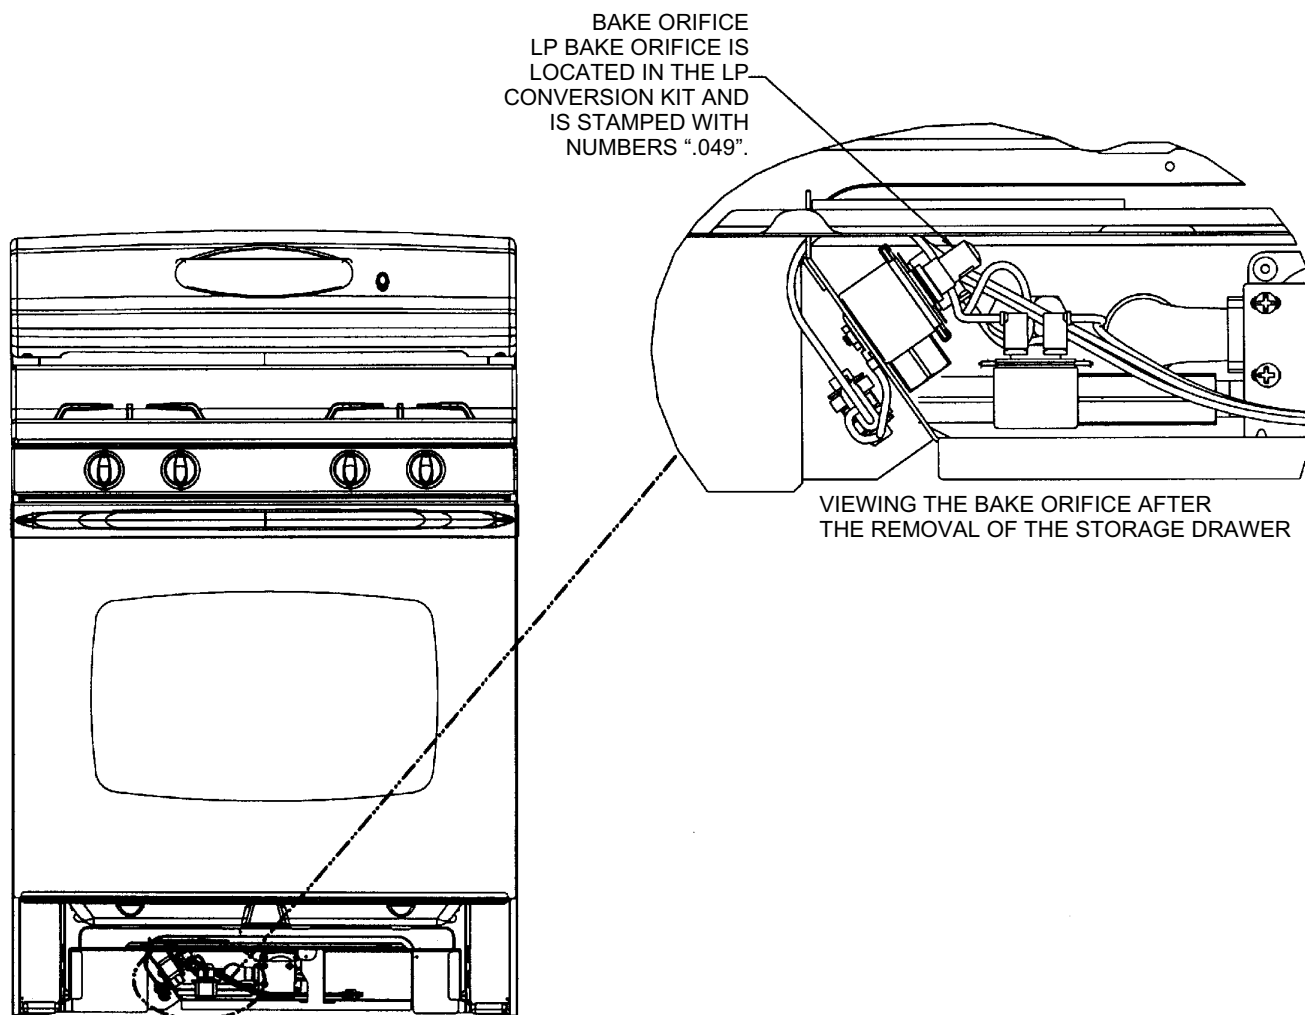

FIGURE 4
4. Screw the cap securely back into place in the neck of the pressure regulator. (The cap need not be wrench-tightened upon replacement. Firm finger tightening will secure the cap). Replace plastic cover over cap. See figure 4.
NOTE: The bake orifice can also be viewed under the range by raising the oven door and removing the storage drawer. See figure 4.